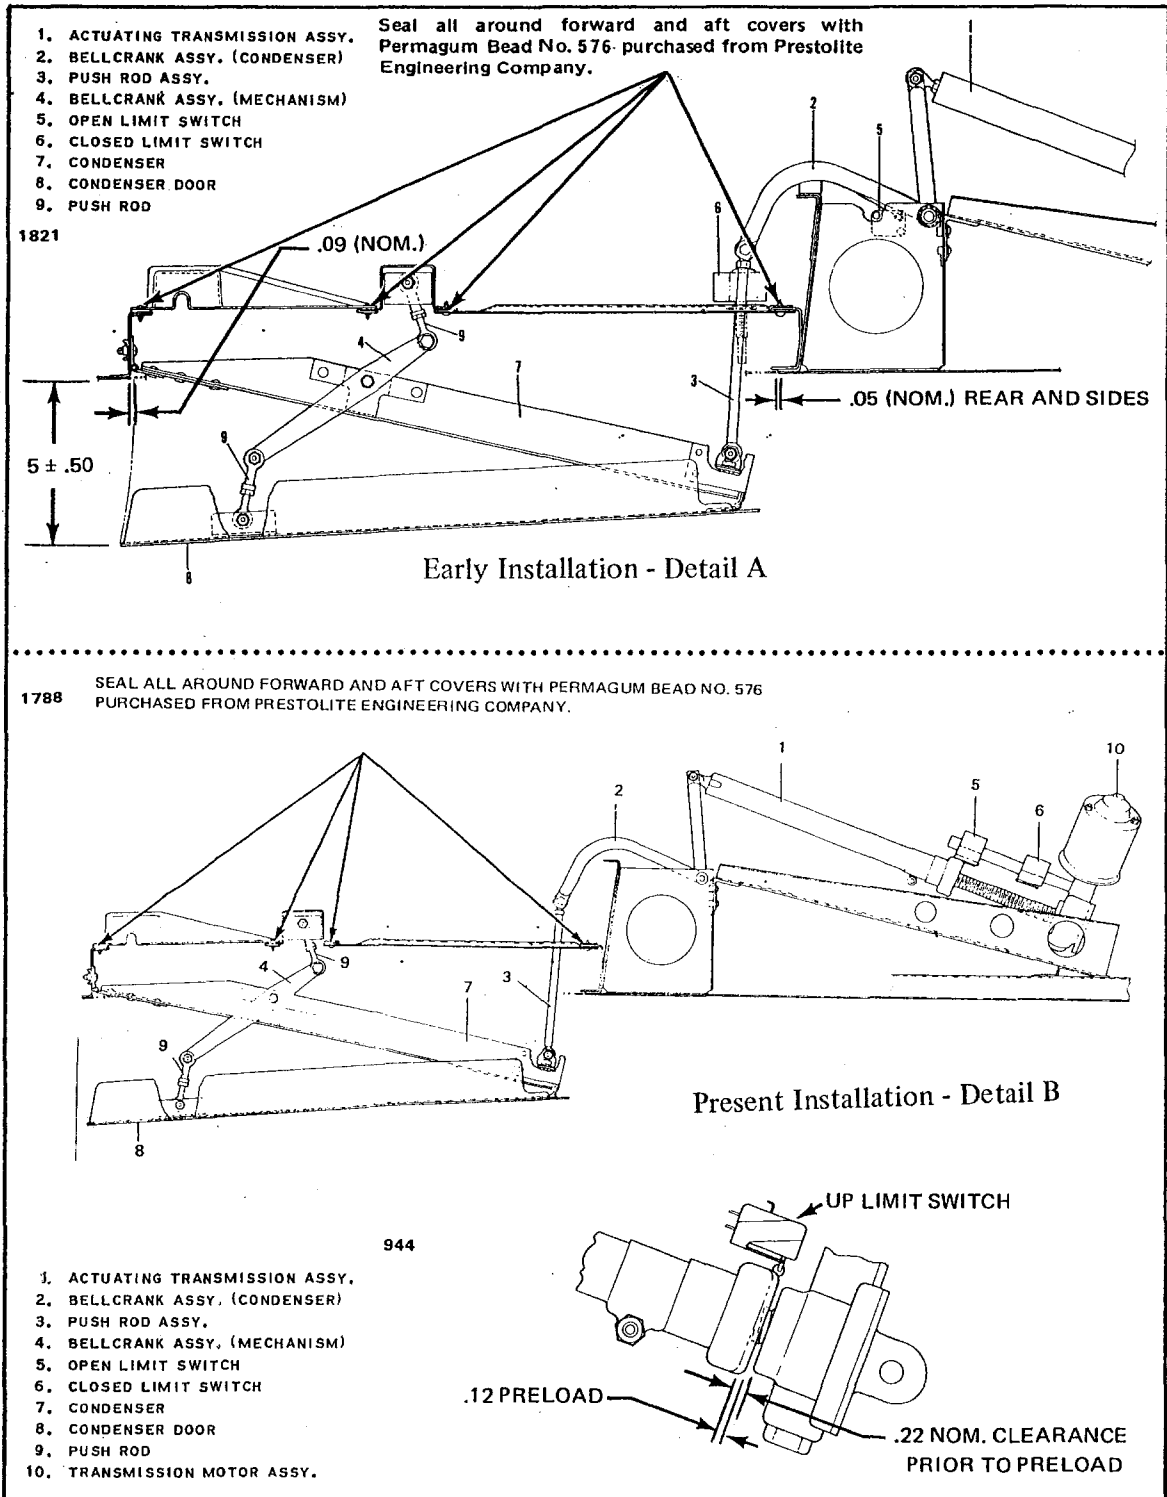

Figure 14-12. Condenser Air Scoop Installation
- b. Place the condenser and frame assembly to the fuselage frame mounting bracket and insert the (8) screws into the piano hinge.
- f. Seal all around forward cover panel (and aft cover panel if removed) with Permagem Bead No. 576 purchased from Prestolite Engineering Company. (See Figure 14-12.)
14-34. CONDENSER DOOR ACTUATOR. The actuator is on a bracket mounted between two bulkheads in the tail cone. It is coupled to the condenser assembly through a bellcrank mounted to a bracket on the bulkhead aft of the condenser. The actuator travel is controlled by two limit switches. On early installations the down switch is located on the inboard bellcrank support and the up switch on the condenser frame. On later installations both the up and down switches are located on the actuator. Refer to Figure 14-12 for the switch locations of the particular installation.
14-35. CONDENSER ASSEMBLY RIGGING INSTRUCTIONS. (Refer to Figure 14-12.)
There are two installations of this system. The first or early installation had the limit switches located as shown in Figure 14-12, Detail A. The second or present installation has the limit switches located as shown in Figure 14-12, Detail B. The instructions covering the adjustment of the limit switches will be covered in separate steps.
Early Installations: (Refer to Figure 14-12, Detail A.)
Present Installations: (Refer to Figure 14-12, Detail B.)
a. Adjust open limit switch (5) to open the condenser door (8) 5.00 + .50 inches when measured from the leading edge of the door to the fuselage skin.
b. Adjust the push rods (9) so that a vertically measured gap of .16 of an inch exists along the trailing edge of the door at the instant the forward edge of the door becomes flush with the fuselage skin.
c. With the door fully closed adjust the "CLOSED" (6) limit switch so that the actuator (1) travels an additional .12 of an inch after the door is fully closed, this is necessary to preload the mechanism. Refer to Figure 14-12, Detail B - View AA.